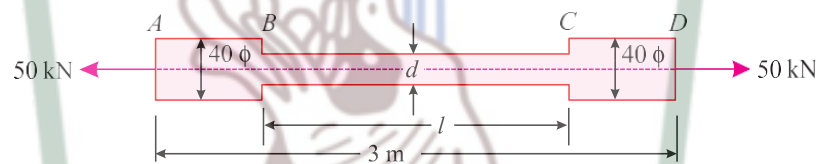

Fig.1
3. a) An alloy circular bar ABCD 3 m long is subjected to a tensile force of 50 kN as shown in fig. 1. If the stress in the middle portion BC is not to exceed 150 MPa, then what should be its diameter? Also find the length of the middle portion, if the total extension of the bar should not exceed by 3 mm. Take E as 100 GPa. All the diameters are in mm.